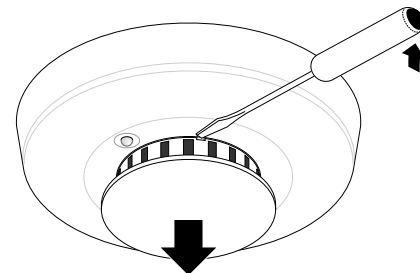

Figure 9. Removing the detector cap
2. Slide a flat-blade screwdriver into the slot on the detector cap and gently push the handle down to pry the cap up and off. See Figure 9.